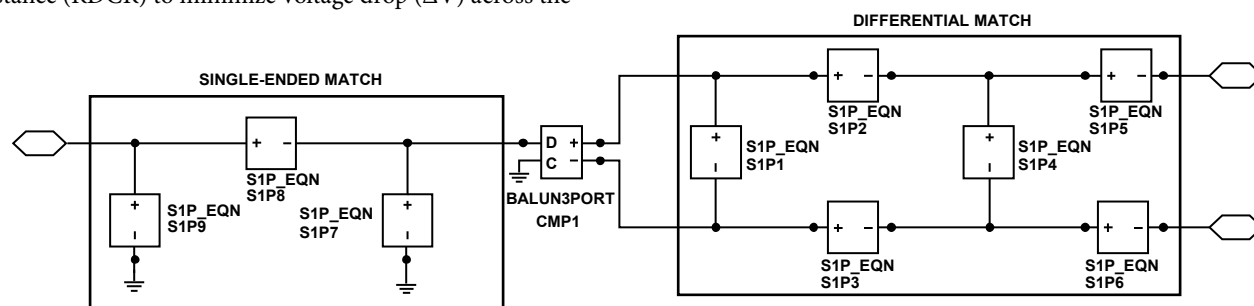

Figure 49. AD9363 Rx Input General-Purpose Impedance Matching Topology
As the ΔV voltage drop increases, the Tx buffer RF performance (OP1dB, maximum output power) degrades. Select choke inductance (LC) such that the choke impedance is high enough relative to the load impedance so that it does not affect the frequency response. The Tx outputs must be ac-coupled in most applications due to the presence of 1.3 V dc supply bias voltage. The approach in Figure 49 is preferred because there are fewer parasitics and the component count is lower.